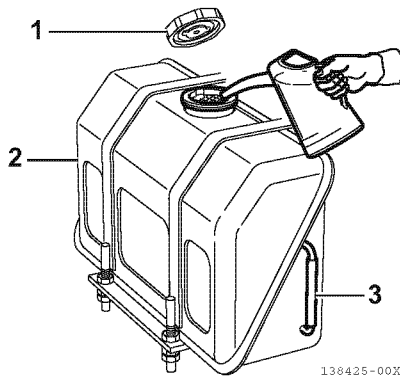

Figure 4-24
1. Clean the area around the fuel cap (1, **Figure 4-24**).
2. Remove the fuel cap from the fuel tank (2, **Figure 4-24**).
3. Observe the fuel level sight gauge (3, **Figure 4-24**) and stop filling when gauge shows fuel tank is full. Never overfill the fuel tank.
4. Replace the fuel cap (1, **Figure 4-24**), hand tighten. Over tightening the fuel cap will damage it.